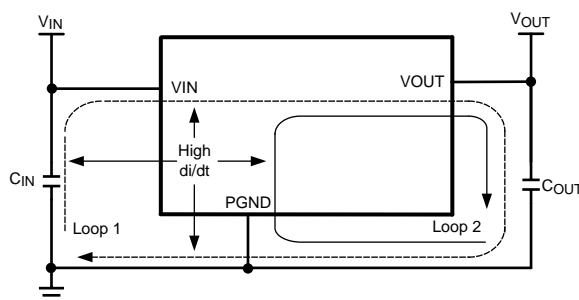

Figure 52. High Current Loops
From an EMI reduction standpoint, it is imperative to minimize the high di/dt paths during PC board layout as shown in Figure 52. The high current loops that do not overlap have high di/dt content that will cause observable high frequency noise on the output pin if the input capacitor (C_{IN}) is placed at a distance away from the LMZ12010. Therefore place C_{IN} as close as possible to the LMZ12010 VIN and PGND exposed pad. This will minimize the high di/dt area and reduce radiated EMI. Additionally, grounding for both the input and output capacitor should consist of a localized top side plane that connects to the PGND exposed pad (EP).